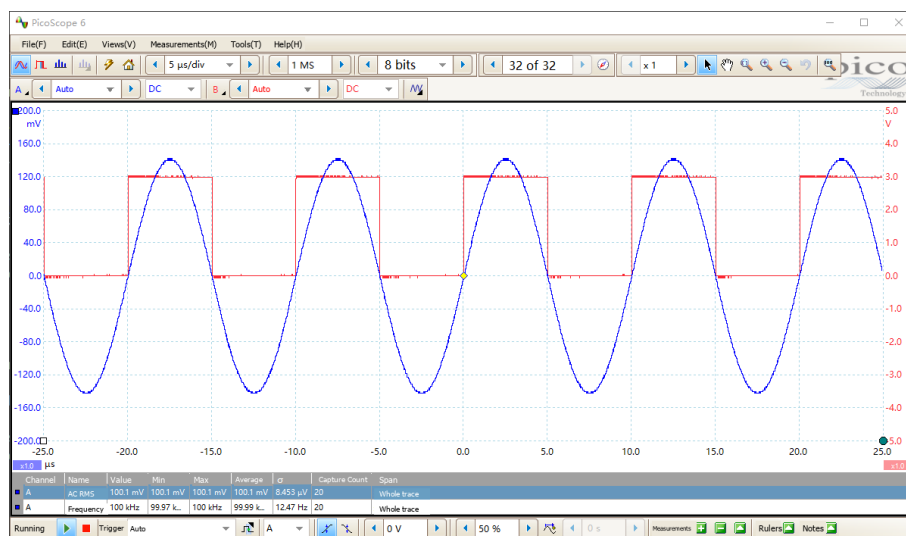

Figure 87. Waveform of the Signal Under Test
3. Turn on the function generator and set the parameters to "Waveform: sine wave", "Amplitude: $100\text{ mV}_{\text{rms}}$ ", "Frequency: 1 MHz ", "Output impedance: high impedance", and "Sync output: on". The waveforms of the signal under test and the synchronization signal are shown in Figure 87.